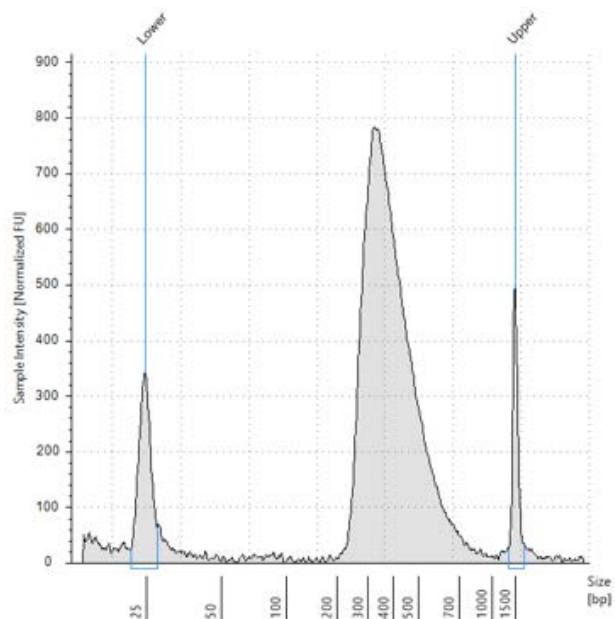
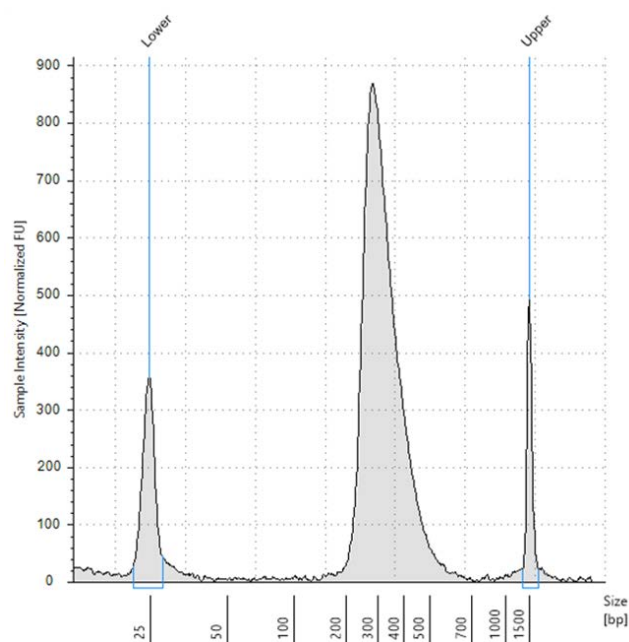

Figure 7 Post-capture library prepared from a high-quality RNA sample analyzed using a High Sensitivity D1000 ScreenTape assay.
Figure 8 Post-capture library prepared from a typical FFPE RNA sample analyzed using a High Sensitivity D1000 ScreenTape assay.
- 3 Verify that the electropherogram shows the peak of DNA fragment size positioned between 200 and 700 bp. Sample electropherograms are shown in Figure 7 (library prepared from high-quality RNA) and Figure 8 (library prepared from FFPE RNA).